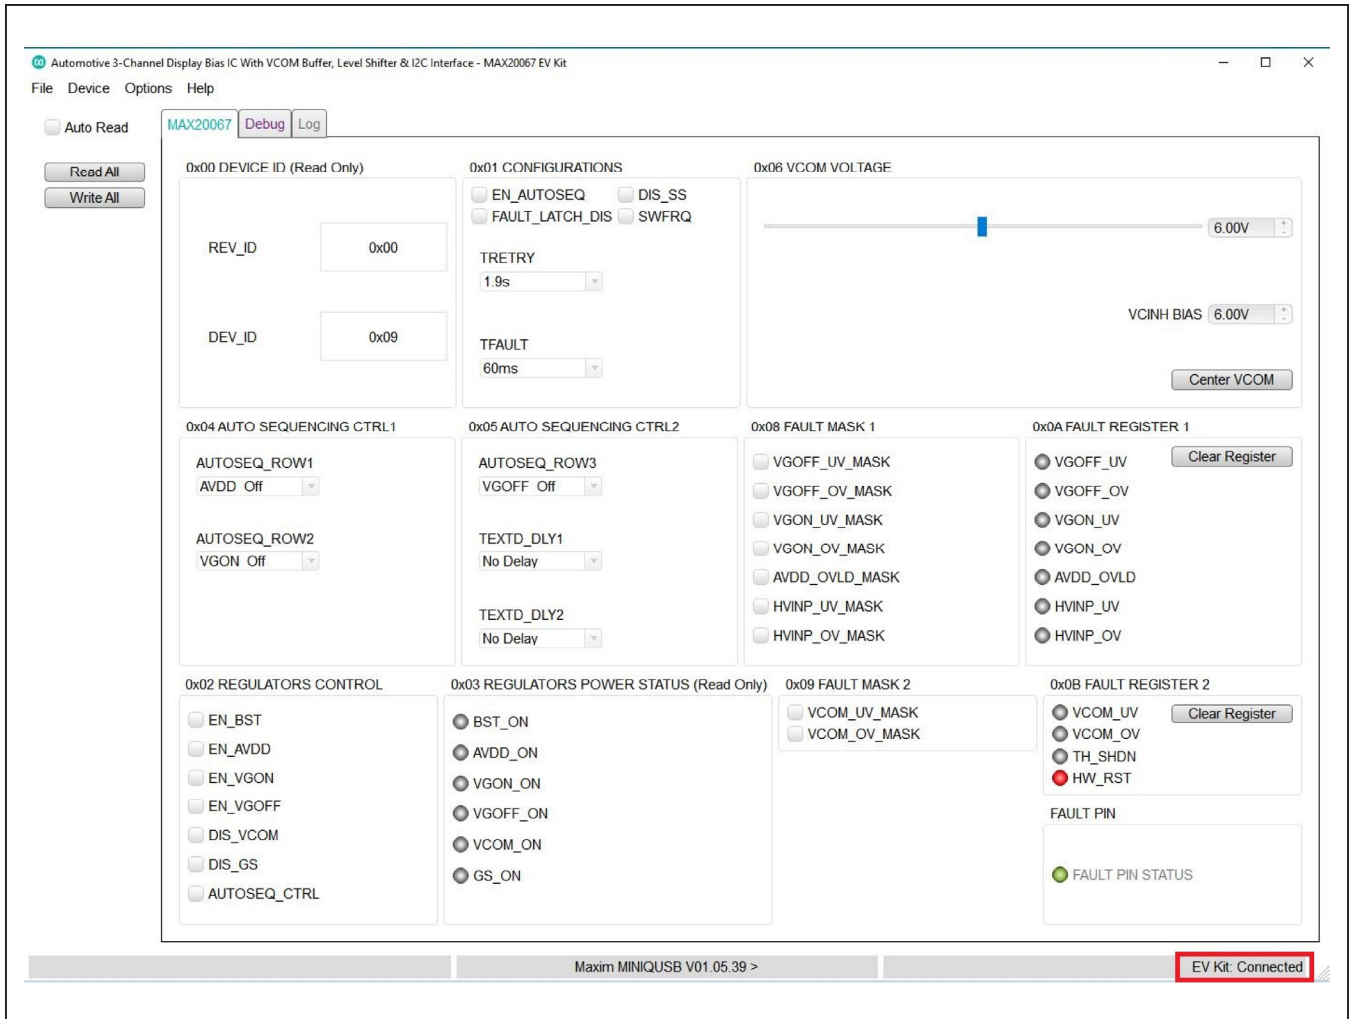

Figure 1. MAX20067 Evaluation Kit Software (GUI)
- 12) Verify that the status bar in the bottom-right corner of the GUI displays **EV Kit: Connected**, as shown in Figure 1.